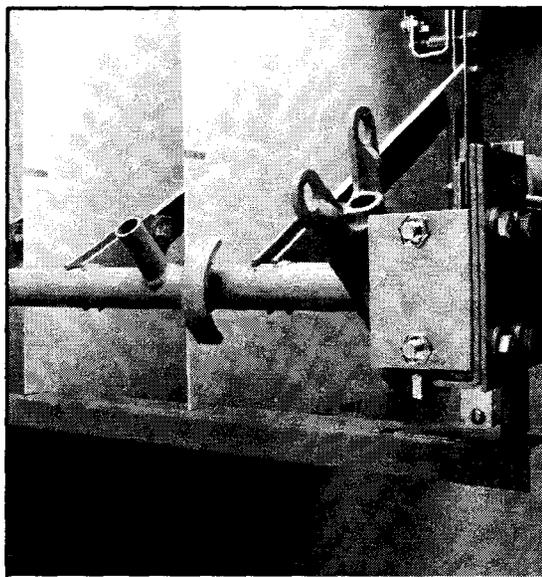

Fig. 14 Maintenance Hub Location
This interlock prevents the door of the enclosure from being opened when the switch is closed. When the switch is closed, a cam welded to the operating shaft engages a bracket welded to the inside of the switch door, preventing the door from being opened. (See Fig.14.)
5.1.3 Check the engagement of the flicker blades by first closing the switch. Next, insert the removable handle in the pipe-like maintenance hub welded to the switch shaft (see Fig. 14) and slowly open the switch. The flicker blades should remain engaged in their contact fingers while the main blades open. When the main blades clear the break jaws, they will hit a stop on the flicker blade brackets and start the flicker blades out of their contact fingers. The flicker blades will then snap open from the forces in their charged torsion springs.